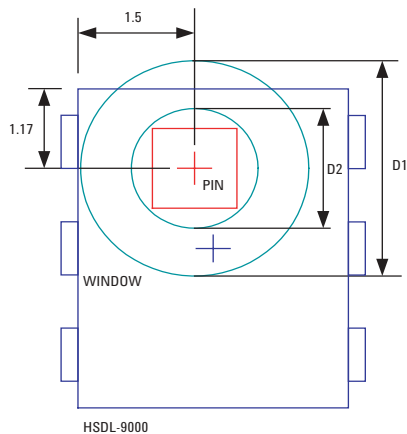

Figure 14. Placement of the window.
1.5 mm (same size as the PIN) to optimize the performance of HSDL-9000. Please refer to Figure 14 for the top view of the placement of the window.